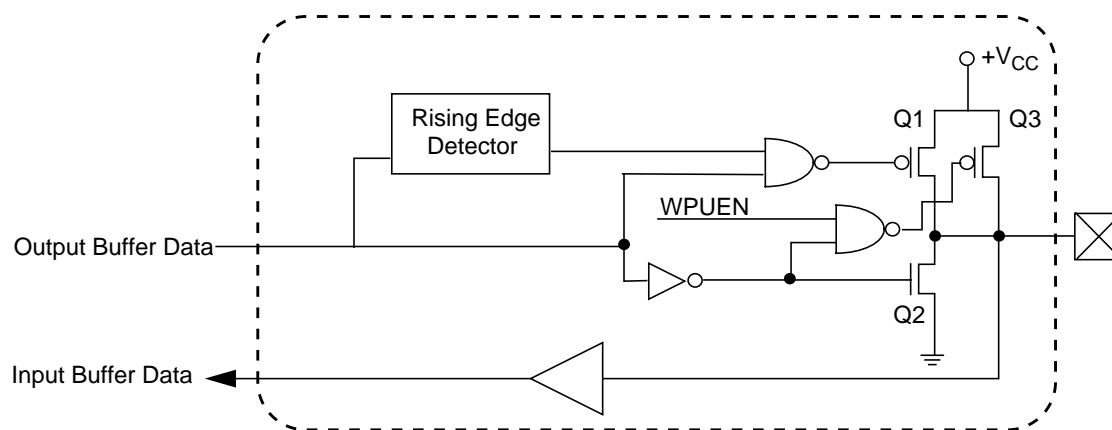

Figure 39. Quasi-Bidirectional Buffer
The quasi-bidirectional drivers have an open-drain output (Q2), an internal pull-up (Q3) and a low-impedance pull-up(Q1). Q2 pulls the signal low whenever the output buffer data is "0". The weak pull-up (Q3) is active whenever the output buffer data is "1" and WPUEN in PSCON register is set (1). The low impedance pull-up is active whenever the PC87591x changes the output data buffer from "0" to "1", thereby reducing the low-to-high transition time. The length of time that the low-impedance pull-up is active is determined by HDRV field in PSCON register. A schematic description of this output driver appears in Figure 39.